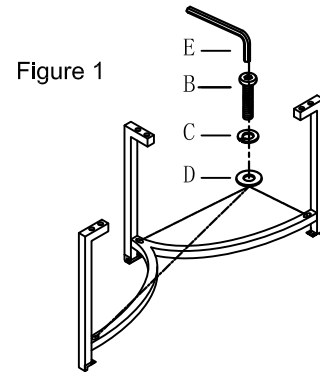

Figure 1
Step 1. Turn the top upside down on a clean soft surface. Attach top stretcher to support legs and tighten Bolt (B) with Flat Washer (D)+Lock Washer (C) by Allen Wrench (E) as Figure 1 shown.